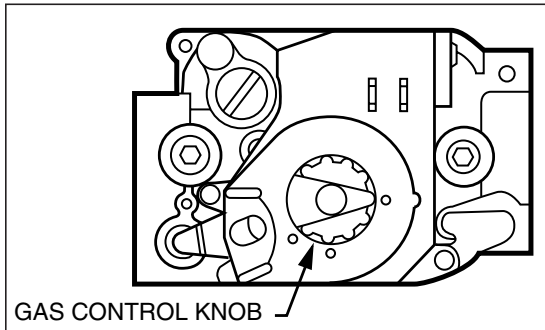

Figure 30. Direct Ignition Gas Valve - Honeywell
- e. Honeywell - push in the gas control knob and turn clockwise to "OFF." Robertshaw - push the gas control lever to "OFF." NOTE: The lever cannot be placed in the "OFF" position unless it is pushed in slightly. DO NOT FORCE (See Figures 30 & 31).
5. Honeywell - push in the gas control knob and turn clockwise to "OFF." Robertshaw - push the gas control lever to "OFF." NOTE: The lever cannot be placed in the "OFF" position unless it is pushed in slightly. DO NOT FORCE (See Figures 30 & 31).